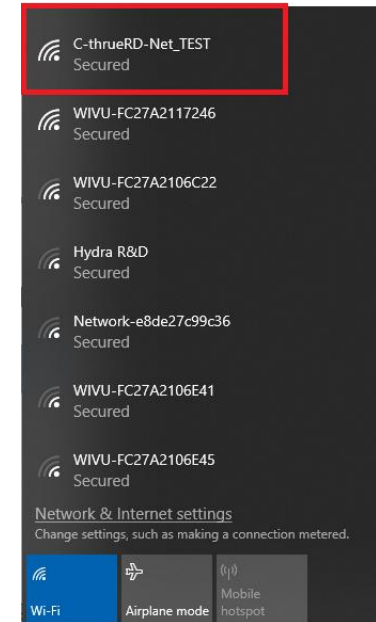

Fig. 99 – Network dropdown menu
- 7) In order to restore the devices communications, the User need to select the renamed network (Fig. 99) and insert the related password.